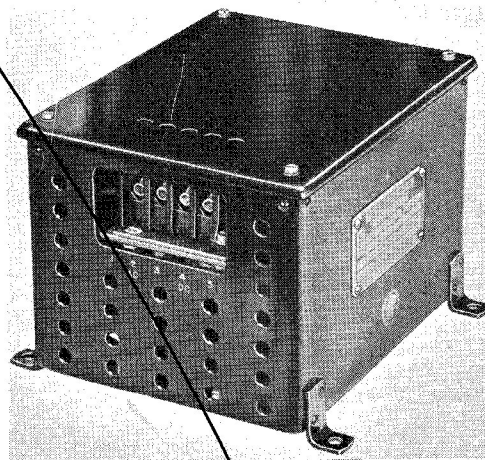

Fig. 1. Typical transformer-rectifier unit
2. The components of the unit consist of a transformer, a rectifier, a resistor, and a terminal block. These are housed in an aluminium case (fig. 1), to the sides of which are riveted four steel mounting feet. The pressed cover is secured to small brackets at the top corners of the case by four ch/hd. screws. One end of the case is fitted with a gauze covered window, whilst the other end is provided with an aperture for cable entry. Additional ventilation holes are drilled in this end of the case.